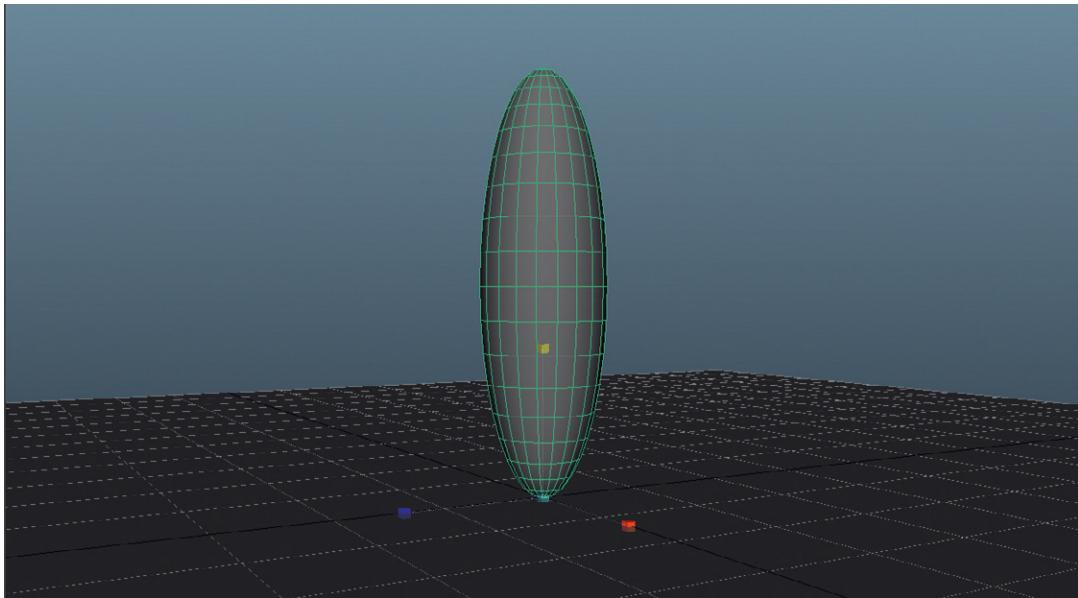

FIG 9.5 Setting the stretch keyframe.
Step 8: Animate the stretch at frame 12. Do this by moving the Current Time Marker to frame 12 and then use the Scale Tool again to scale the sphere tall (with the green cube handle), and then very skinny (with the blue cube handle). Hit s to set the key (Fig. 9.5).